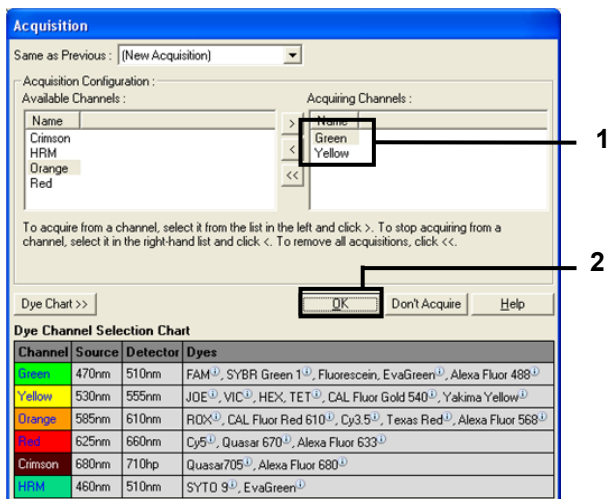

Figure 8. Acquiring at cycling step of 60°C. (1 = Selected channels; 2 = "OK")
- Select **Green** and **Yellow** from the Available Channels list, then click > to transfer these channels to the Acquiring Channels list. Click **OK** (Figure 8).